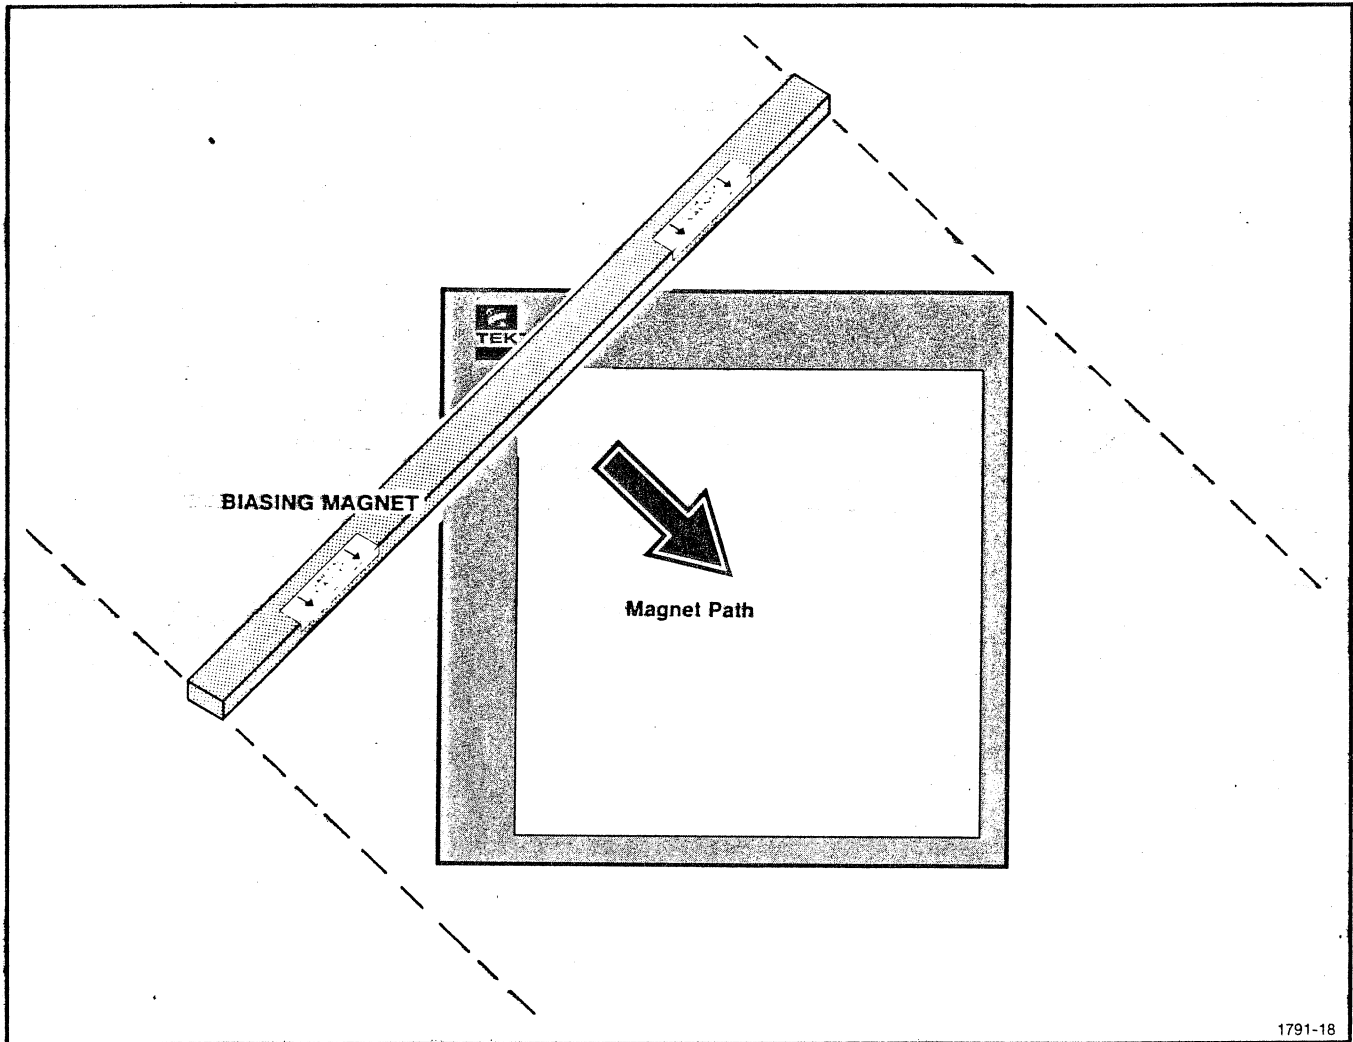

Fig. 3-7. Biasing the tablet.
1. Place the magnet on the upper left corner of the Tablet surface, as shown in Fig. 3-7. Be sure the arrows on the magnet label are pointing as shown.